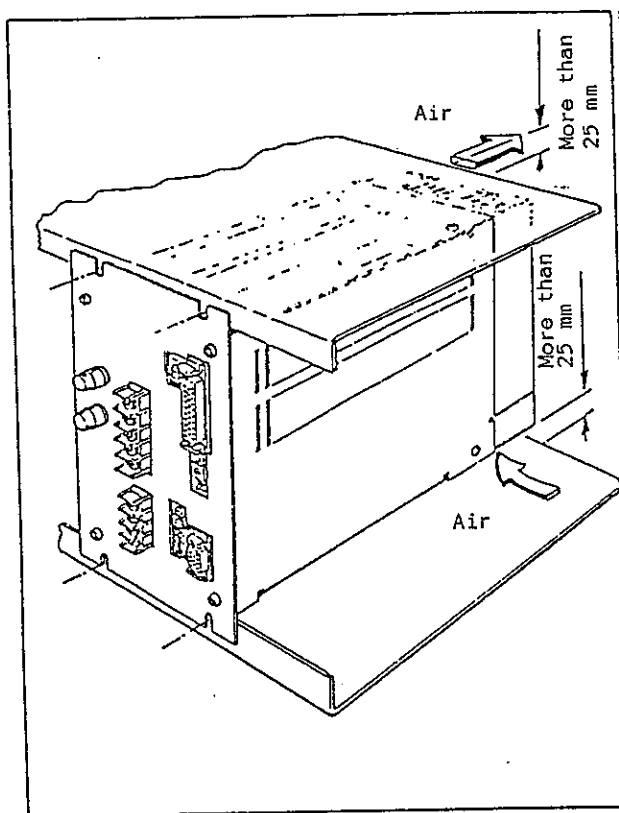

Figure 3.12
- A self-cooling driver box with a built-in fan is employed, (only for the 200 V power supply) so it is necessary to have a ventilation space above the box. (See Figure 3.12.)